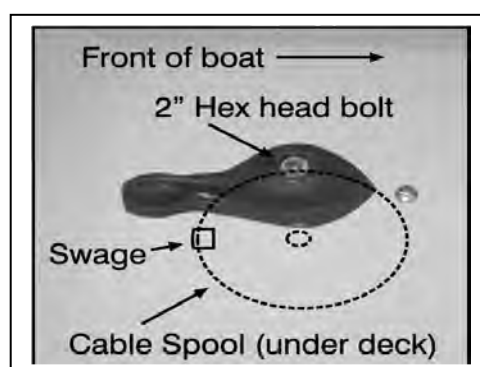

Fig. 10
b. From the outside of the kayak, place the Trim Tab Knob through the post, and engage the teeth into the Trim Tab assembly. When doing so, make sure the handle of the Knob is lined up front to back when the copper swage on the Cable is centered on the back side of the Trim Tab Cable Spool. You may need to pry the back edge of the Spool slightly out of the Trim Tab Housing to double check this. (Fig. 10)